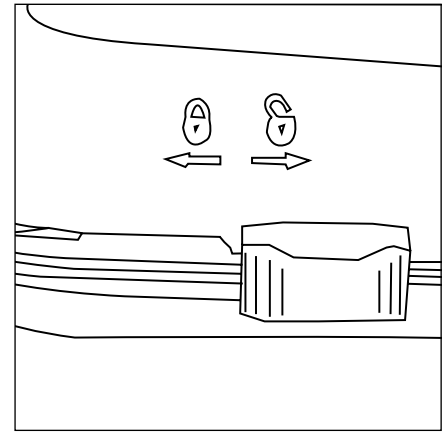

Figure 6
2. Disassemble the humidifier chamber by moving each of the slide latches (**Figure 6**) to the unlocked (🔓) position and separate the chamber lid from the chamber base.
2. Assemble the chamber lid to the chamber base by first ensuring that each of the slide latches are in the unlocked (🔓) position (**Figure 6**).